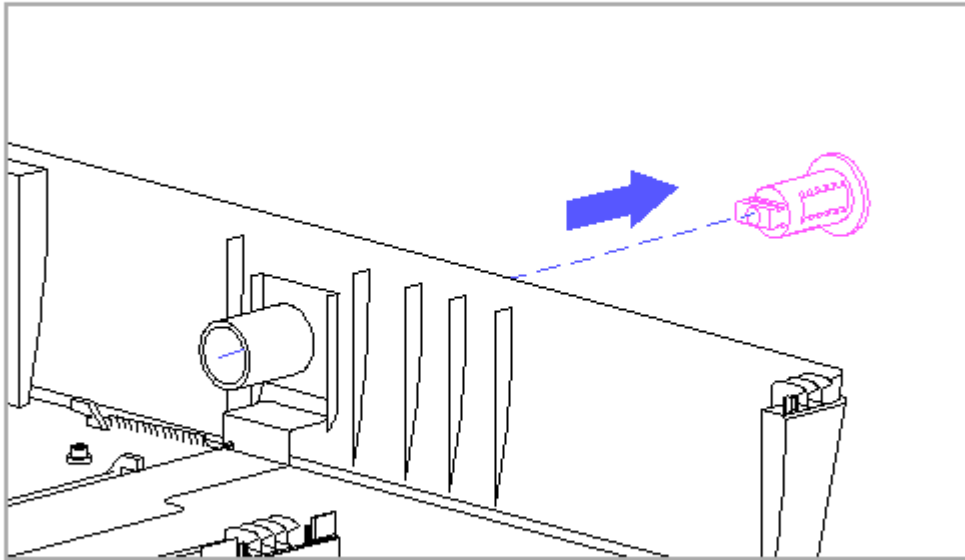

Figure 9-5. Removing the Keylock
4. Remove the keylock from the outside of the bottom cover (Figure 9-5).